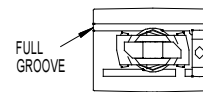

Fig. 1
2. Align FULL GROOVE in ADAPTERS with BEAD on TRACK see Fig. 1 & 2